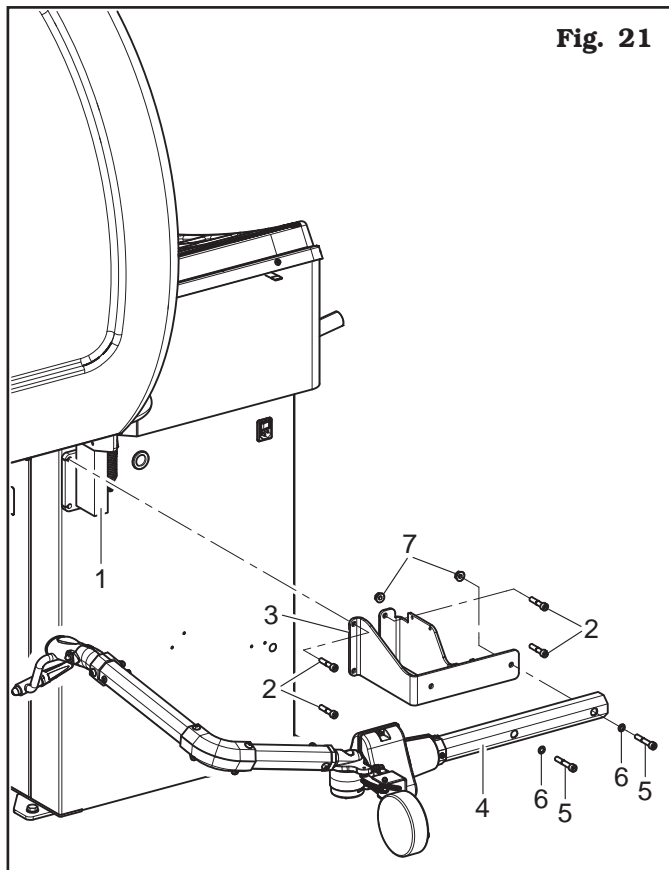
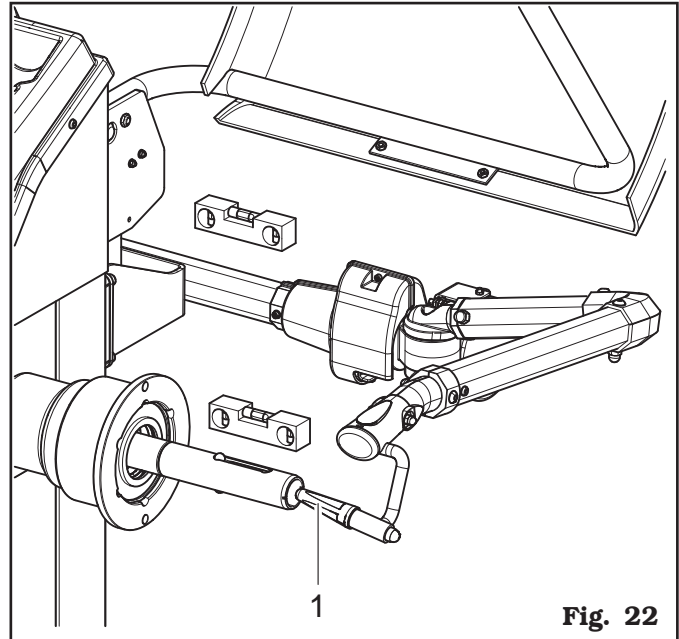

Fig. 21
Fig. 22
1. Unscrew the 3 screws (in vertical position) of the protection guard support (**Fig. 21 ref. 1**) being very careful about holding the same support.
2. Screw the 4 screws (**Fig. 21 ref. 2**) to the gauge bracket (**Fig. 21 ref. 3**) and in the special threaded inserts placed on the rear side of the frame. Lock the gauge arm (**Fig. 21 ref. 4**) by screwing the 2 screws provided (**Fig. 21 ref. 5**) and the washers (**Fig. 21 ref. 6**). Lock these screws with the nuts (**Fig. 21 ref. 7**) so that the mandrel and the gauge arm are levelled out (see **Fig. 22**).
3. Make sure the gauge tip is positioned at the centre of the mandrel (**Fig. 22 ref. 1**).